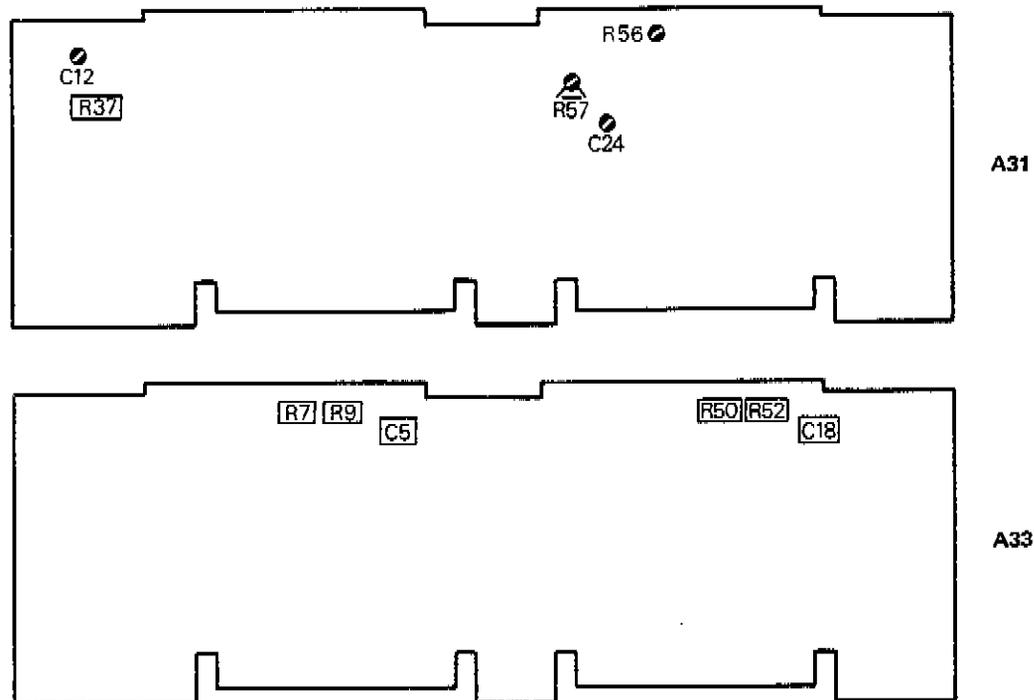

Figure 5-19 A31 and A33 Adjustment Locations
5. Adjust the 3570A Amplitude Zero calibration controls for an amplitude display of approx 0dB. Adjust the 1740A A POSITION to place the left (low frequency) end of the display at the same point as during calibration. Adjust 3717A A31C24 for slope and A31R56 for shape to make the response the same as during calibration ± 0.1 dB. (See Figure 5-19 for adjustment locations.)
9. Adjust the 3570A Amplitude Zero calibration controls for an amplitude display of approx 0dB. Adjust the 1740A A POSITION to place the left end of the display at the same point as during calibration. Adjust 3717A A33C18 to make the response the same as during calibration ± 0.1 dB. See Figure 5-19 for Adjustment Locations.)